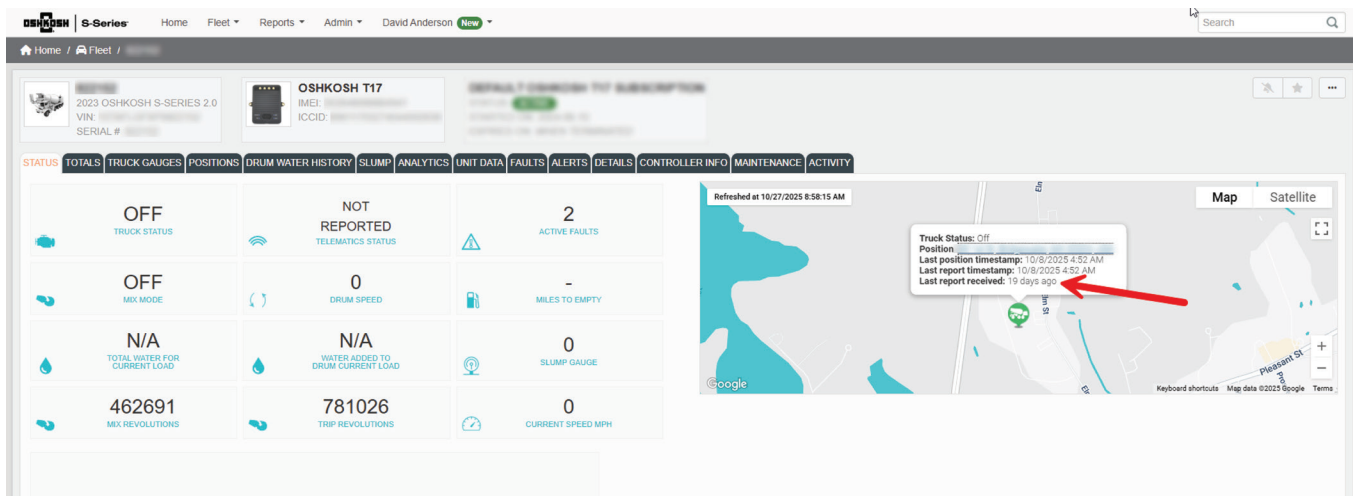

Figure 9
31. Make sure the truck displays in the STATUS tab and is reporting to ClearSky. See Figure 9.